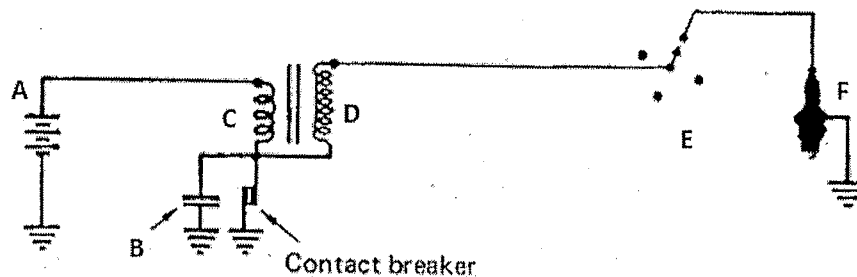

Figure Q2: Electrical Circuit of Conventional Ignition System
Figure Q2 represents an electrical circuit of a conventional contact breaker point (CB) ignition system